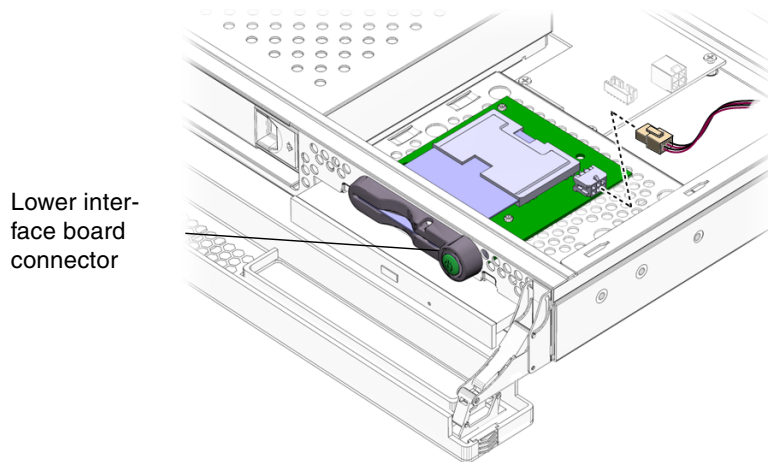

FIGURE 1-8 Location of Connectors on the System Configuration Card Reader
5. Disconnect the cable leading to the lower interface board from the configuration card reader (FIGURE 1-8).